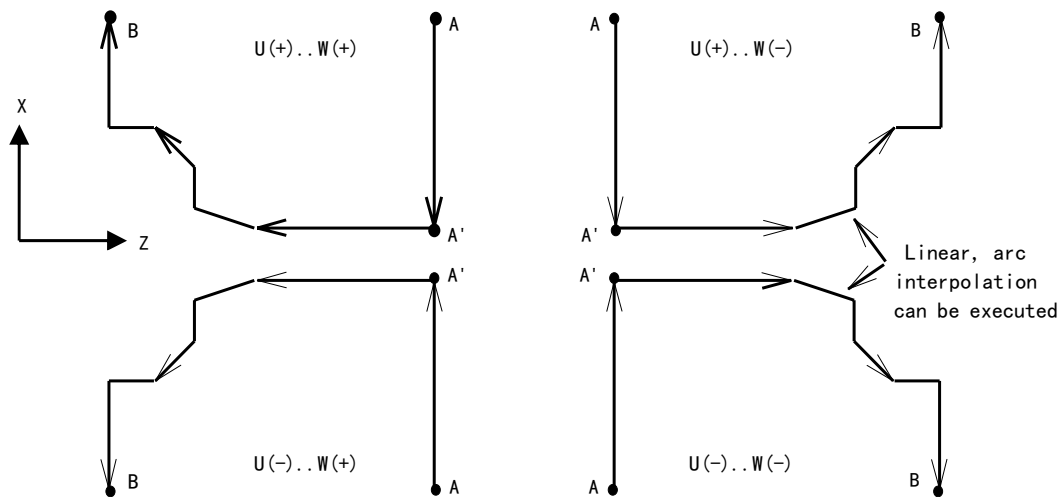

Fig. 4-5-1-2
5. According to the different cutting direction, the G71 code path has the following four situations (Fig. 4-5-1-2). Anyway, the tool cuts parallel with Z axis, signs of Δu and Δw are shown below: